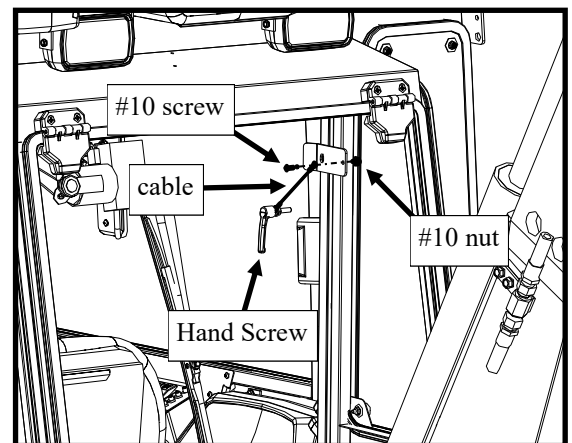

Fig. 18.6: Hand Screw Assembly
- 18.6 Fasten the backhoe cab hand screw assembly cables to the backhoe cab (see Figure 18.6)